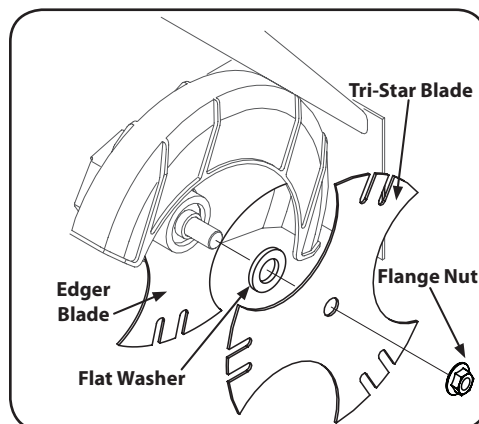

Figure 4-6
1. Use two wrenches (one wrench to prevent the hex bolt head from spinning and the other to unthread the flange nut) to remove the flange nut that secures the edger blade, leaving the edger blade in place. See Figure 4-6.
2. Install the additional edger blade and flat washer supplied with your machine. See Figure 4-6.